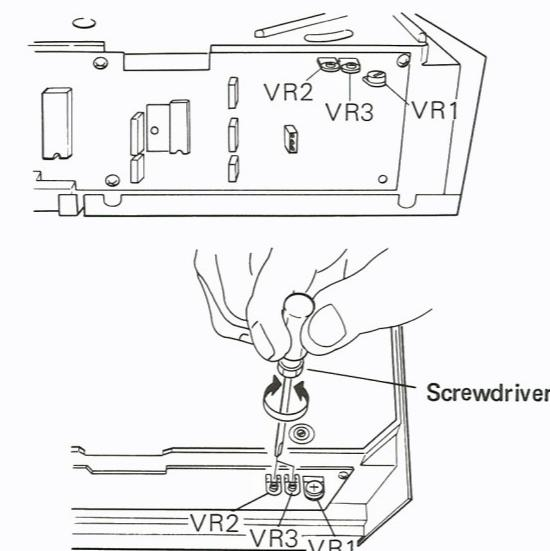

Fig. 9.4 Adjustment Position
6. The voltage difference is decreased by turning VR1 clockwise, and increase by turning counter clockwise (see Fig. 9.4).